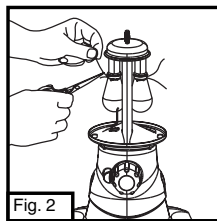

Fig. 2
- Distribute folds on mantle evenly. Cut off surplus string 1/4" (0.6cm) from knot. (Fig. 2)